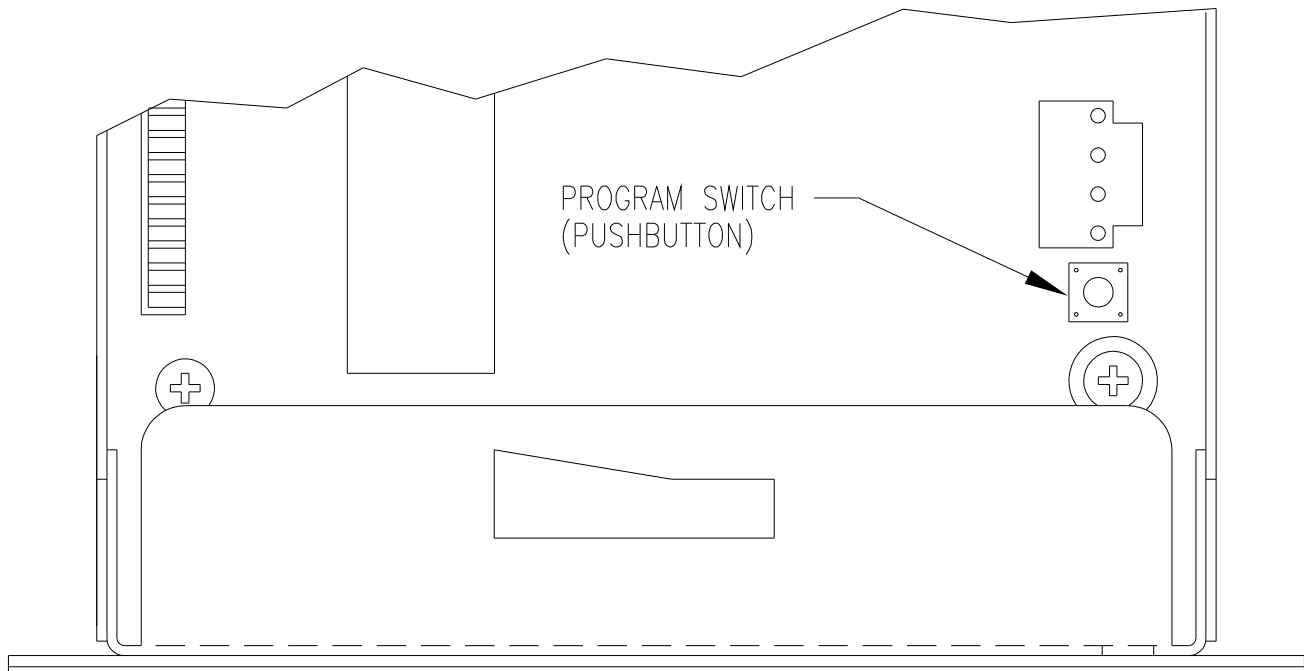

FIGURE 4 - Top View Of Controller.
2. Unlock the control tray, carefully slide the control tray assembly forward about three inches. Press the program switch. (See fig. 4 "Top View of Controller") Reinstall and lock the controller.